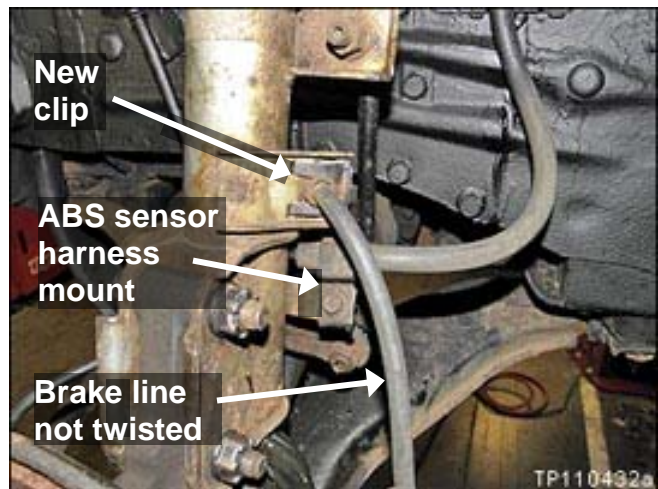

Figure RB37
- Confirm the ABS sensor harness is mounted correctly as shown in Figure RB37.